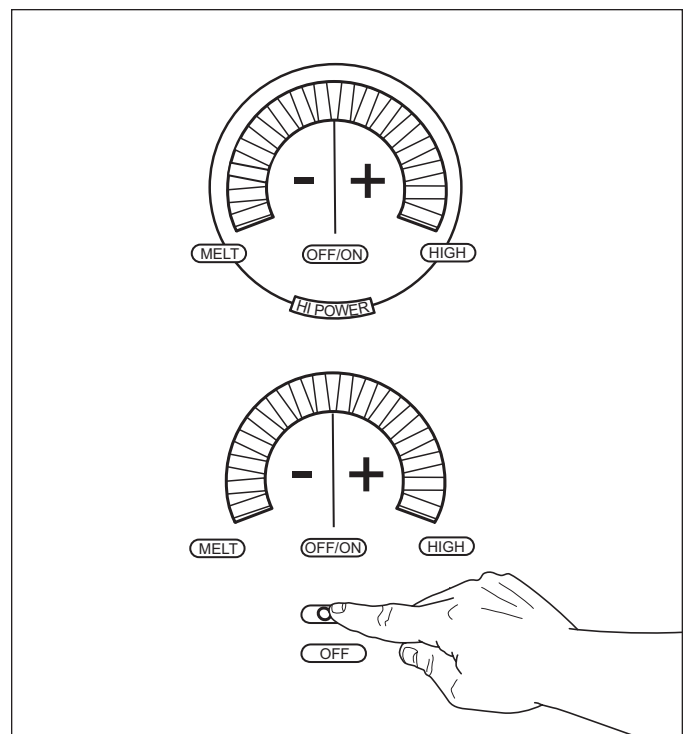

Figure 3-4. Lock Key
- To unlock the control, touch and hold the "key" symbol for 3 seconds. The unit will beep twice and the light within the "key" symbol will go out. The control unit is now in the idle mode. (See Figure 3-4).
- To lock the control, touch and hold the "key" symbol for three seconds. The unit will beep three times and the light within the "key" symbol will illuminate. (See Figure 3-4).